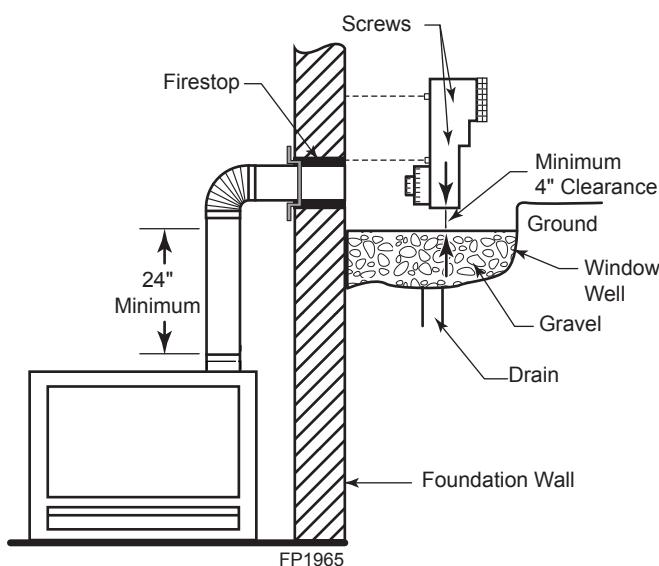

Figure 32 -
- Remove soil to a depth of approximately 16" below base of snorkel. Install drain pipe. Install window well (not supplied). Refill hole with 12" of coarse gravel leaving a clearance of approximately 4" below snorkel. *Figure 32*
- Level the soil so as to maintain a 4" clearance below snorkel. *Figure 32*
- Determine the route your vertical venting will take. If ceiling joist, roof rafters or other framing will obstruct the venting system, consider an offset. Refer to *Figure 32* to avoid cutting load bearing members.